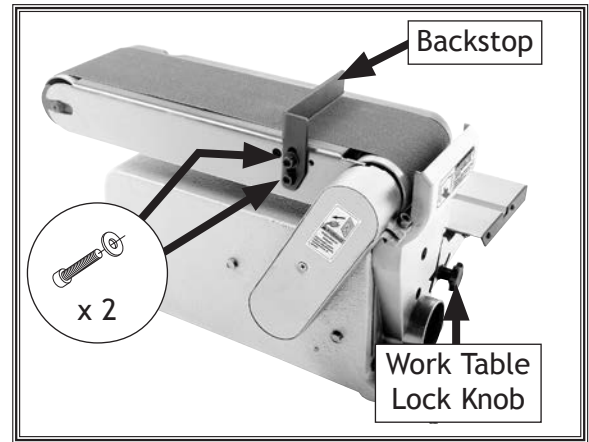

Figure 20. Backstop removal.
2. Remove (2) M8-1.25 x 16 cap screws, (2) 8mm flat washers, and backstop (see **Figure 20**).
3. Loosen work table lock knob (see **Figure 20**) and remove lock knob, washer, and work table from sanding disc.